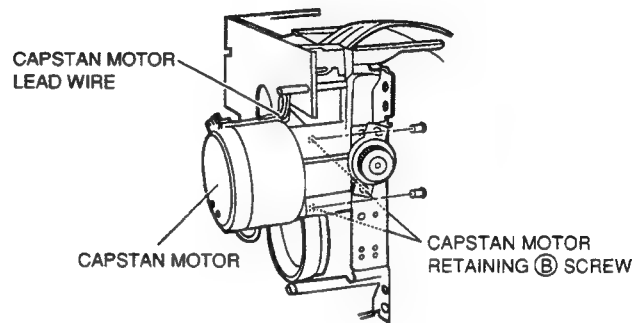

Fig.3-6
- 1) Remove the CAPSTAN MOTOR RETAINING (B) SCREWS. (refer illustration Fig.3-6)
- 3) Remove the two MOTOR PCB RETAINING (C) SCREWS and separate the MOTOR PCB from the MECHA BLK. Replace the DRIVE BELT.